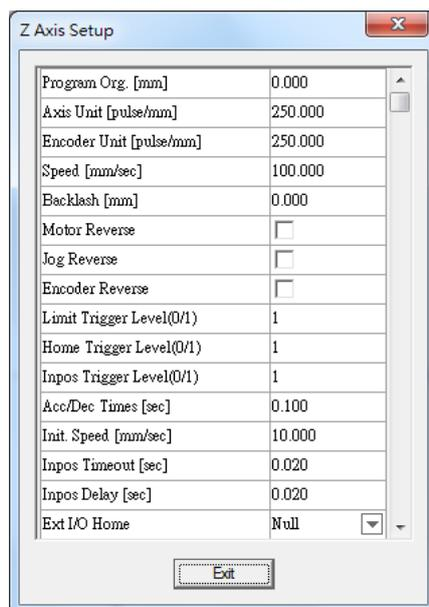

Fig. 1.7.38
6. Click "SETUP..." and do more detail settings, see Fig.1.7.38.